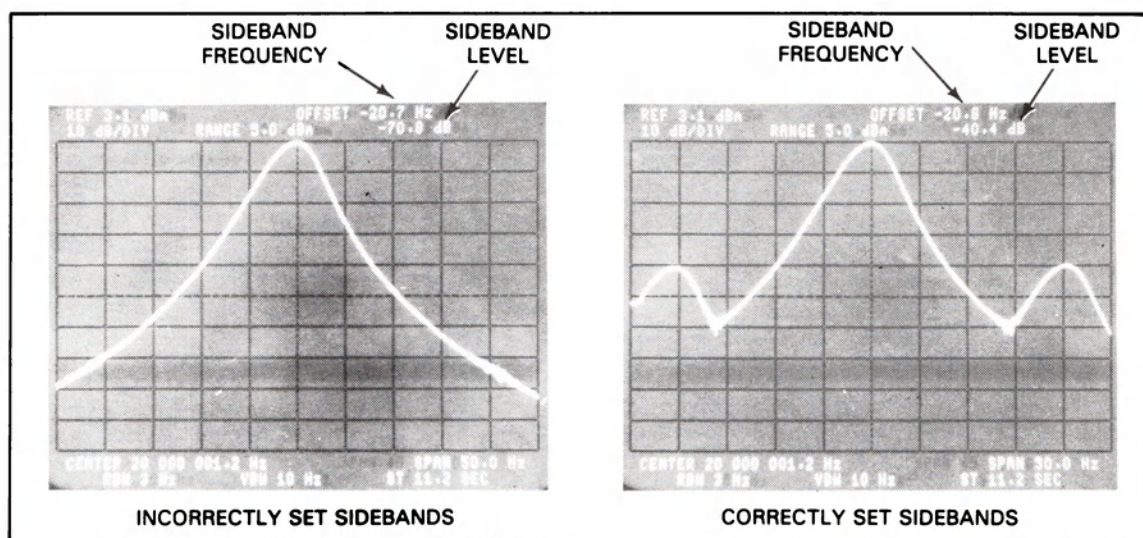

Figure 7-19. AM Discrete Tone Accuracy Test Adjustments
g. Adjust the -hp- 3312A amplitude until the 20 Hz sidebands are approximately 40 dB below the 20 MHz carrier. (See Figure 7-19)